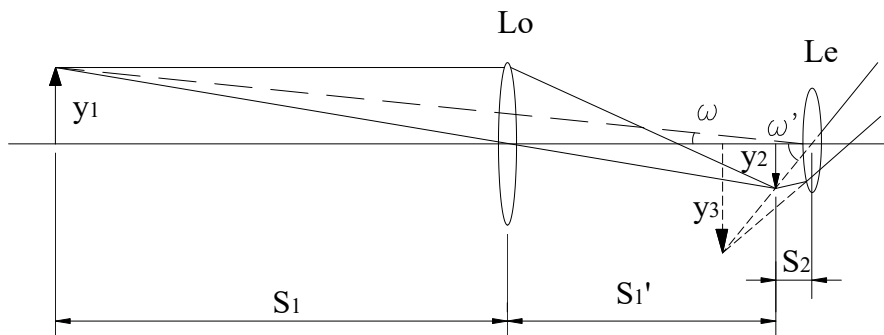

Figure 4.3-4 Schematic of telescope imaging at quasi-infinity.
As shown in Figure 4.3-4, when observing an object at quasi-infinity, the power of magnification is:
- 1) Refer to Figure 4.3-4, align L_o and L_e in same height on the optical rail with their spacing about f_o+f_e , place the stand ruler in front of L_o at a distance of about 3 meters;